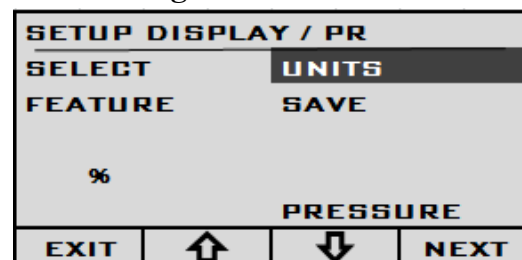

Figure 6.3.4: Select units.
- 5) On the SETUP DISPLAY screen use the UP/DOWN arrow keys to select the desired unit to be displayed on the screen. (Figure 6.3.4)